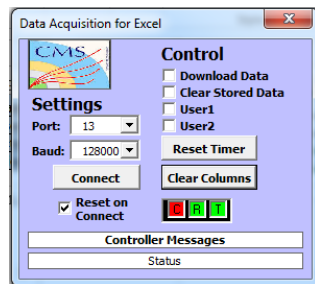

Figure 3.5: QC3 data acquisition window.
8. The DAQ window will appear as well as the Excel sheet that will contain the data (Fig. 3.5). At this point the system is ready to start the acquisition.
10. Start the recording of the data by pressing the *Connect* button on the DAQ window (Fig. 3.5). After this step the Excel sheet will be updated every minutes with the new data from the different pressure and temperature sensors. Do not operate the computer while the test is running under the penalty of loosing the connection between the micro-controller and the Excel file.